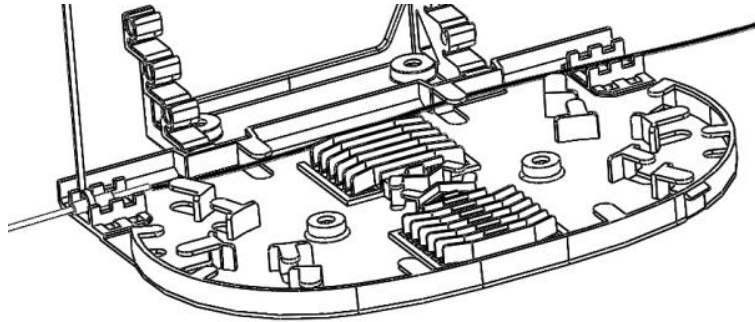

Fig. 21
3.6.8. Use a cable tie to secure the fiber unit (Fig. 21). Rotate the splice tray to facilitate the plastic cable tie installation